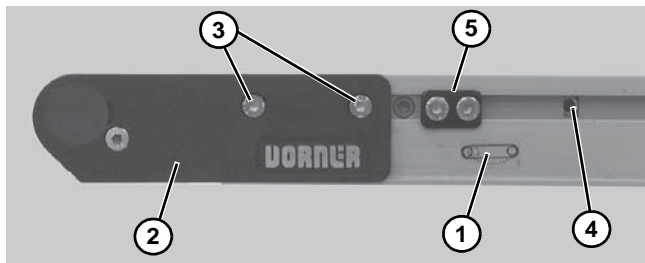

Figure 26
1. On tension end of the conveyor, identified with a  label (**Figure 26, item 1**), adjust head plate assembly (**Figure 26, item 2**): On both sides of conveyor, loosen fastening screws (**Figure 26, item 3**) and rotate pinion gear (**Figure 26, item 4**) to adjust head plate assembly.
3. After adjusting proper tensioning, tighten fastening screws (**Figure 26, item 3**) on both sides of conveyor to 60 in-lb (7 Nm).
4. If equipped with cam tracking assemblies (**Figure 26, item 5**), position against head plates and adjust belt tracking. Refer to "Conveyor Belt Tracking" on page 14.